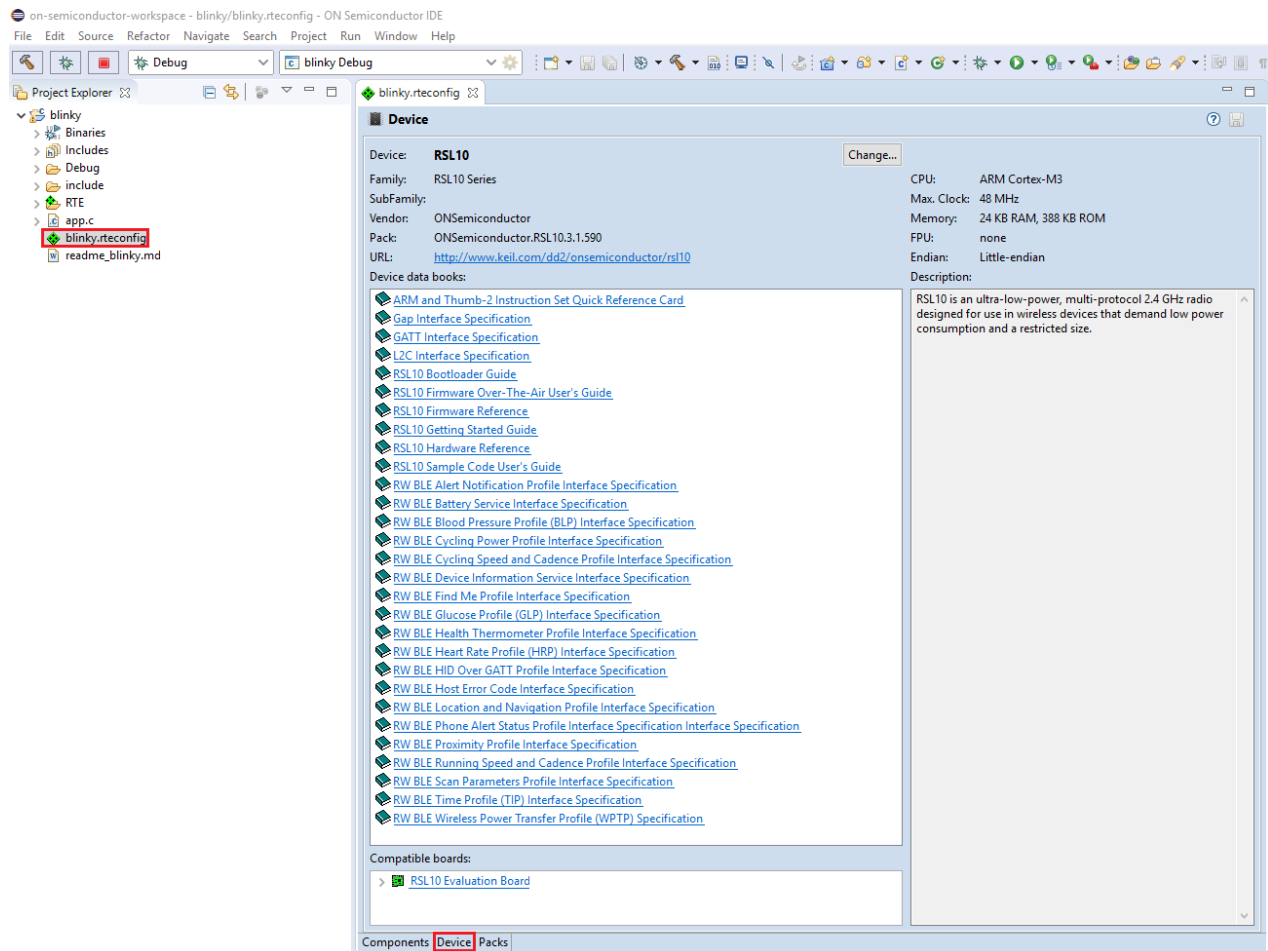

Figure 54. Accessing RSL10 Documentation from the onsemi IDE
- onsemi IDE: documentation is accessible through the C/C++ perspective by opening any RTE configuration file, such as *blinky.rteconfig*, and selecting the tab **Device** (see the figure "Accessing RSL10 Documentation from the onsemi IDE" (Figure 54)).